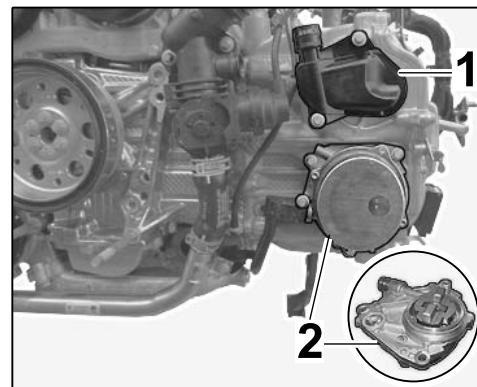

Figure 9
- 2.3.3 Install vacuum pump (solo pump) for brake booster with new O-rings (2 x) on cylinder head 4–6 ( ⇒ *Workshop Manual '477619 Removing and installing vacuum pump'*, ⇒ *Figure 9*).